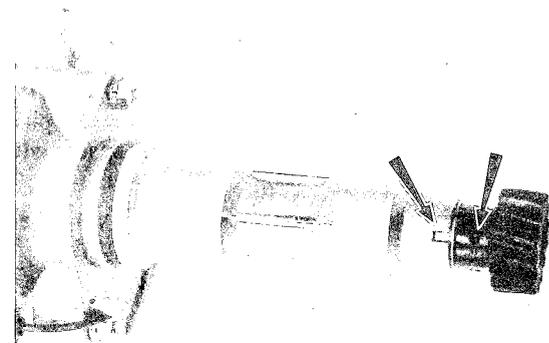

Fig. 1-91 Aligning tally marks
2. Align the tally marks on the distributor housing and driven gear as shown in Fig. 1-91.